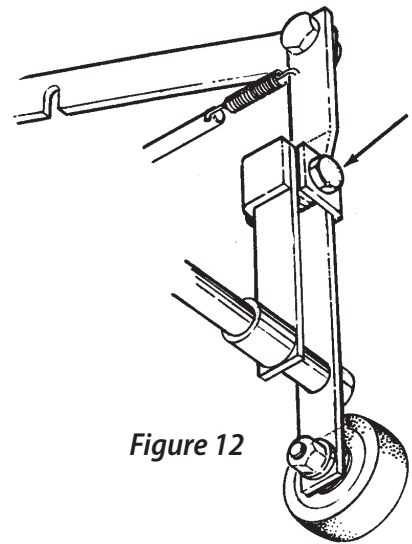

Figure 12
- 1 Locate the leveling screw. See Figure 12.